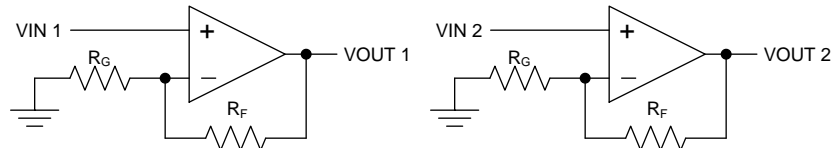

Figure 40. Schematic Representation for Figure 41
- Place the external components as close to the device as possible. Keep  $R_F$  and  $R_G$  close to the inverting input to minimize parasitic capacitance, as shown in Figure 40.